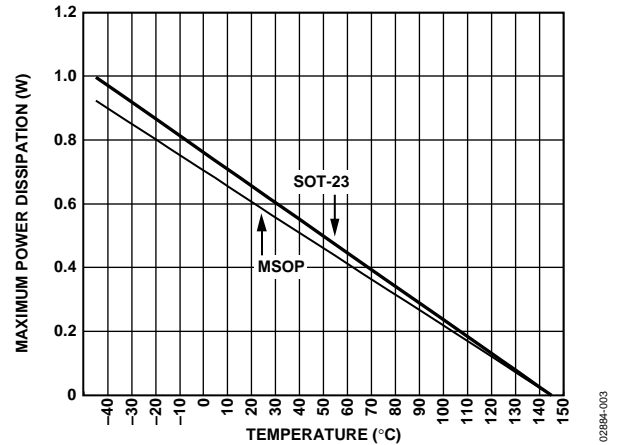

Figure 3. Plot of Maximum Power Dissipation vs. Temperature
- ² Values relate to the package being used on a standard 2-layer PCB. Refer to Figure 3 for a plot of maximum power dissipation vs. ambient temperature (T_A).